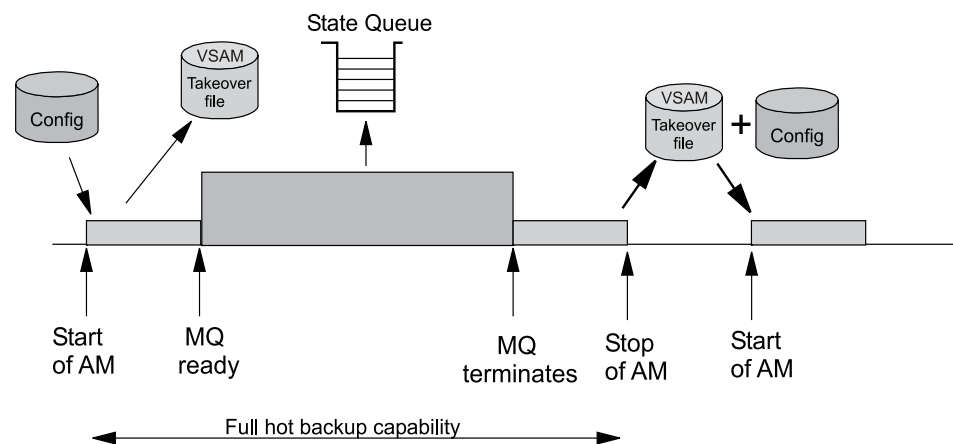

Figure 4. Automating MQSeries with SA z/OS
Figure 4 shows the timeline for the MQSeries solution when MQSeries is automated by SA z/OS.
2. If the PAM or its system fail during the startup phase, an SAM becomes the new PAM. The new PAM reads the actual state of the automatable resources from the takeover file. (Note that this is not represented in Figure 4.)
4. If the PAM or its system fail while MQSeries is running, an SAM becomes the new PAM. The new PAM uses the information in the shared MQSeries queues. (Note that this is not represented in Figure 4.)
- If there are any SAMs, one of these becomes the new PAM. (Note that this is not represented in Figure 4.)